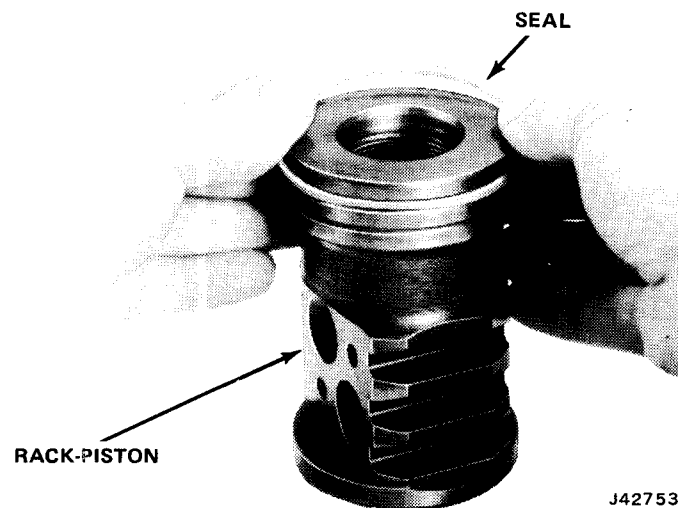

Fig. 11-82 Assembling Seal Ring on Rack-Piston Nut
(1) Lubricate backup O-ring seal and install in ring groove on rack-piston nut (fig. 11-82).
(2) Install seal ring in ring groove on top of backup O-ring seal.